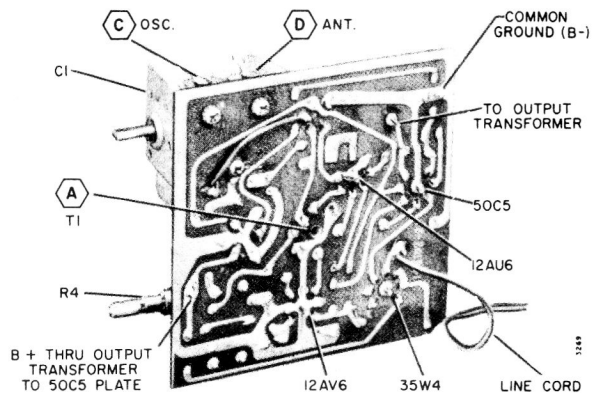

Figure 1. Bottom View of Chassis.
- All readings made between tube socket terminals and common ground; see figure 1.
* Adjustment "A" made from underside of chassis; see figure 1.